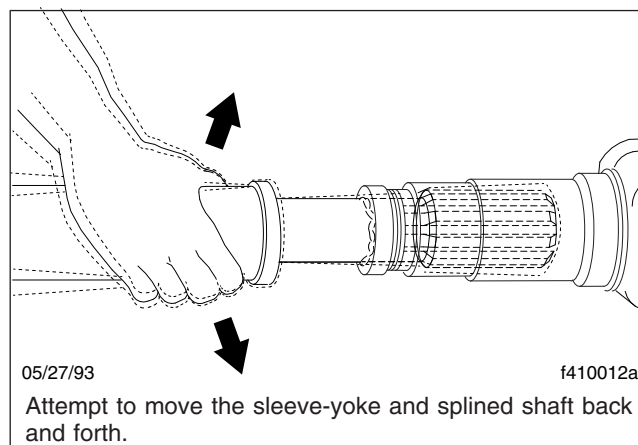

Fig. 5, Slip Joint Spline Wear Checking
6. Check slip joints for spline wear by moving the sleeve-yoke and splined shaft back and forth; see **Fig. 5**. If the slip joint can be twisted in a clockwise, or counterclockwise movement greater than 0.007 inch (0.18 mm), replace both the sleeve-yoke and the splined shaft.